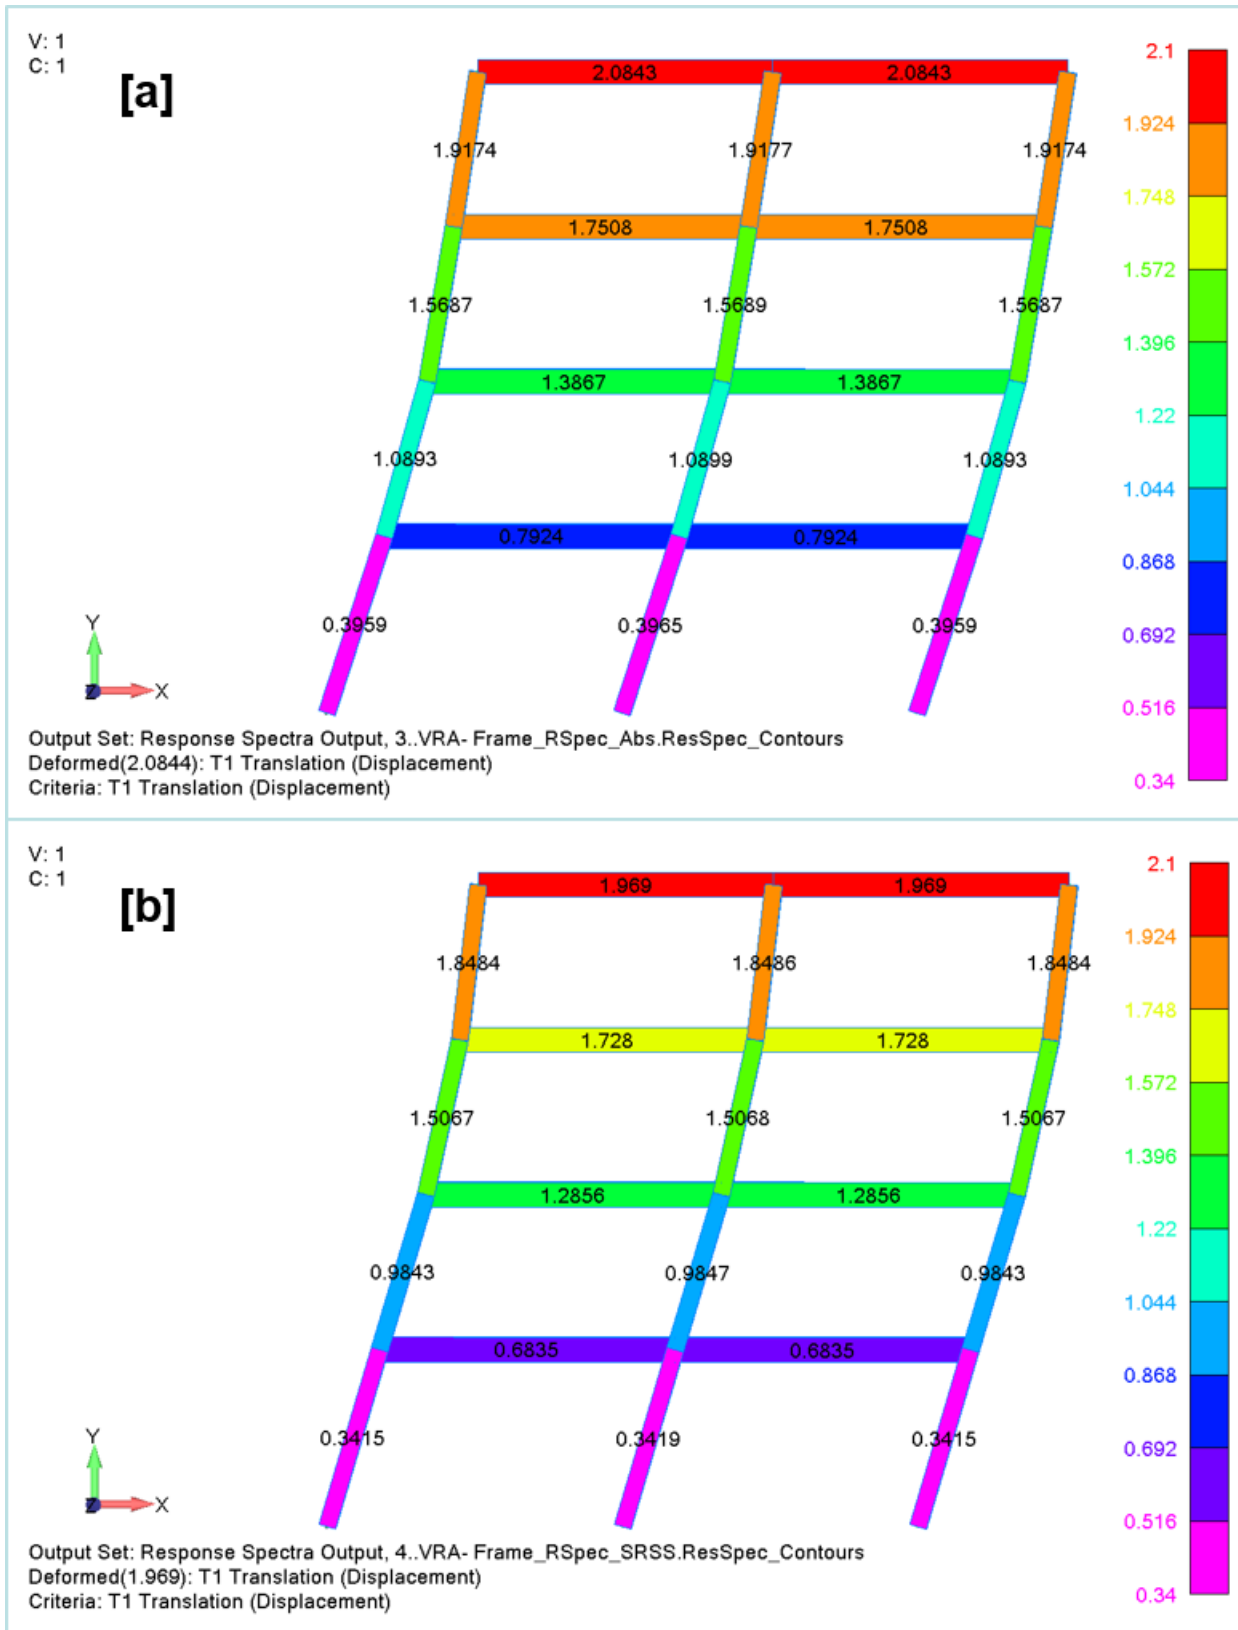
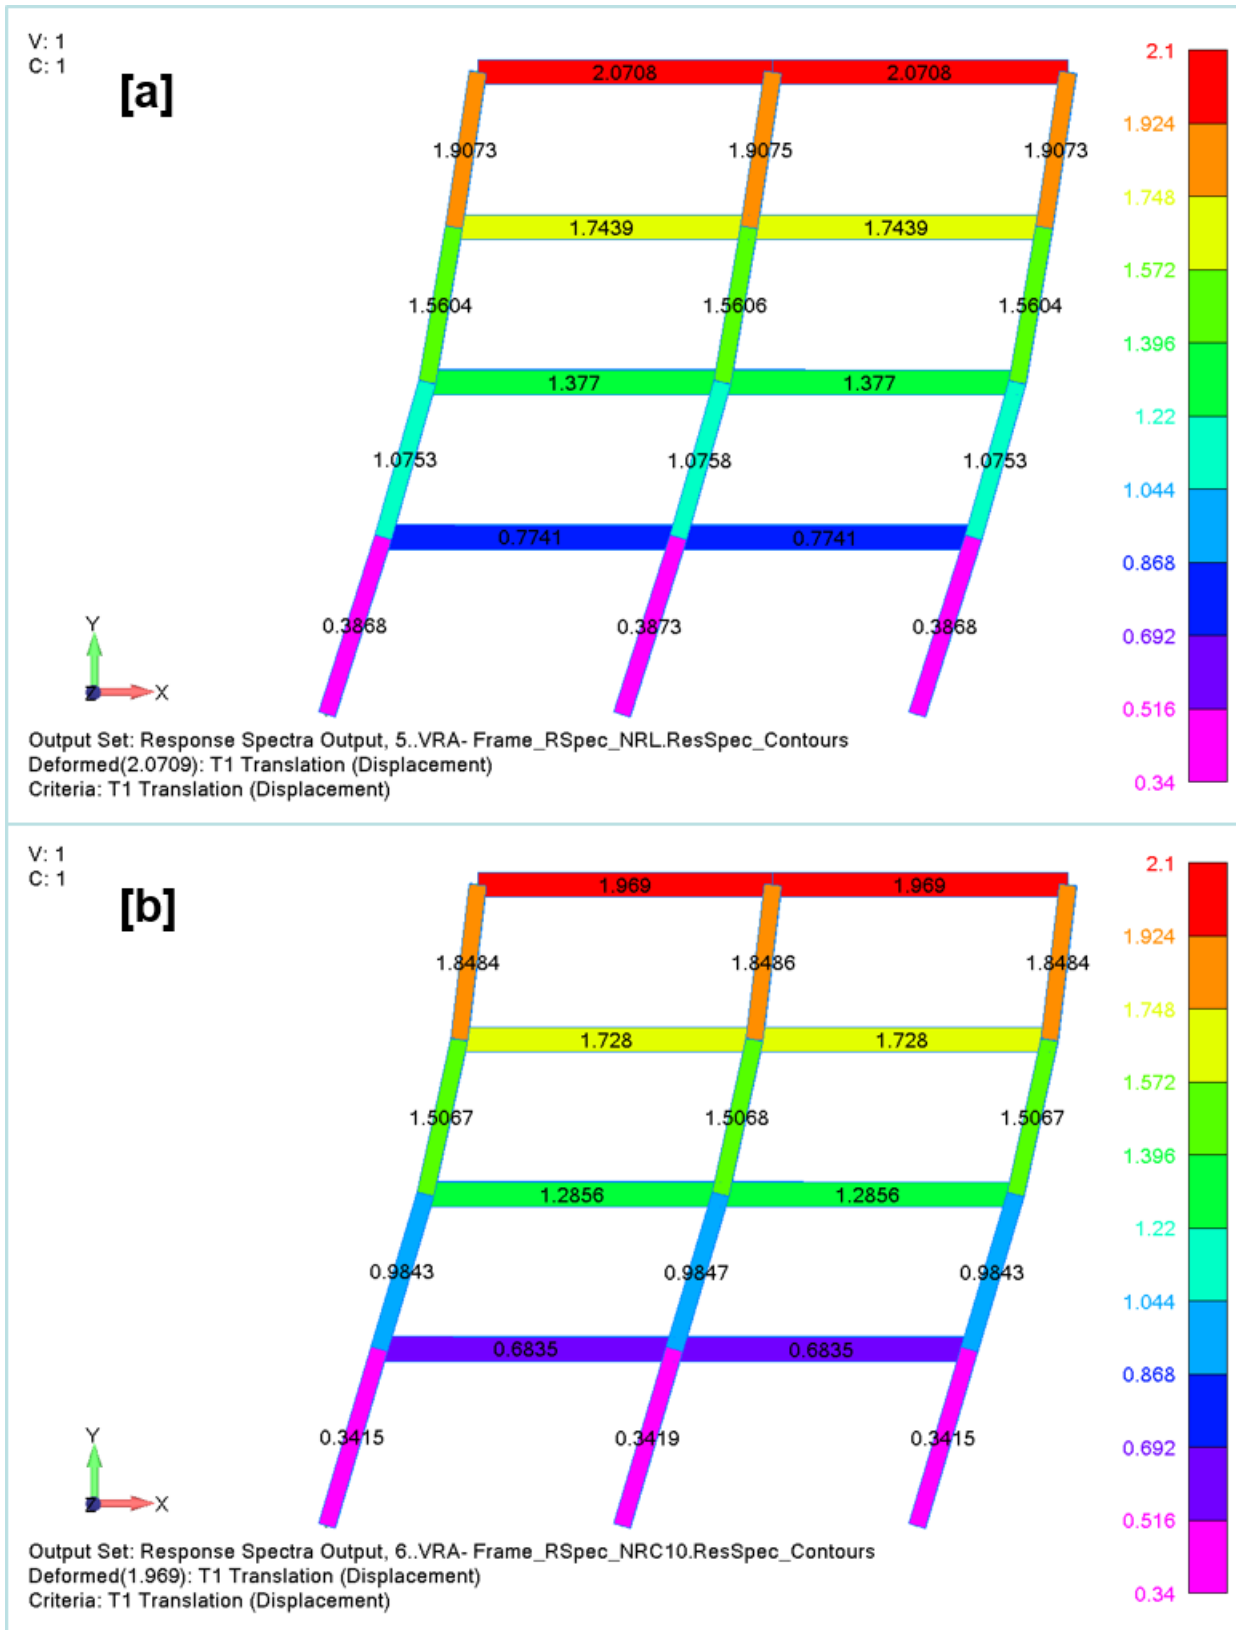
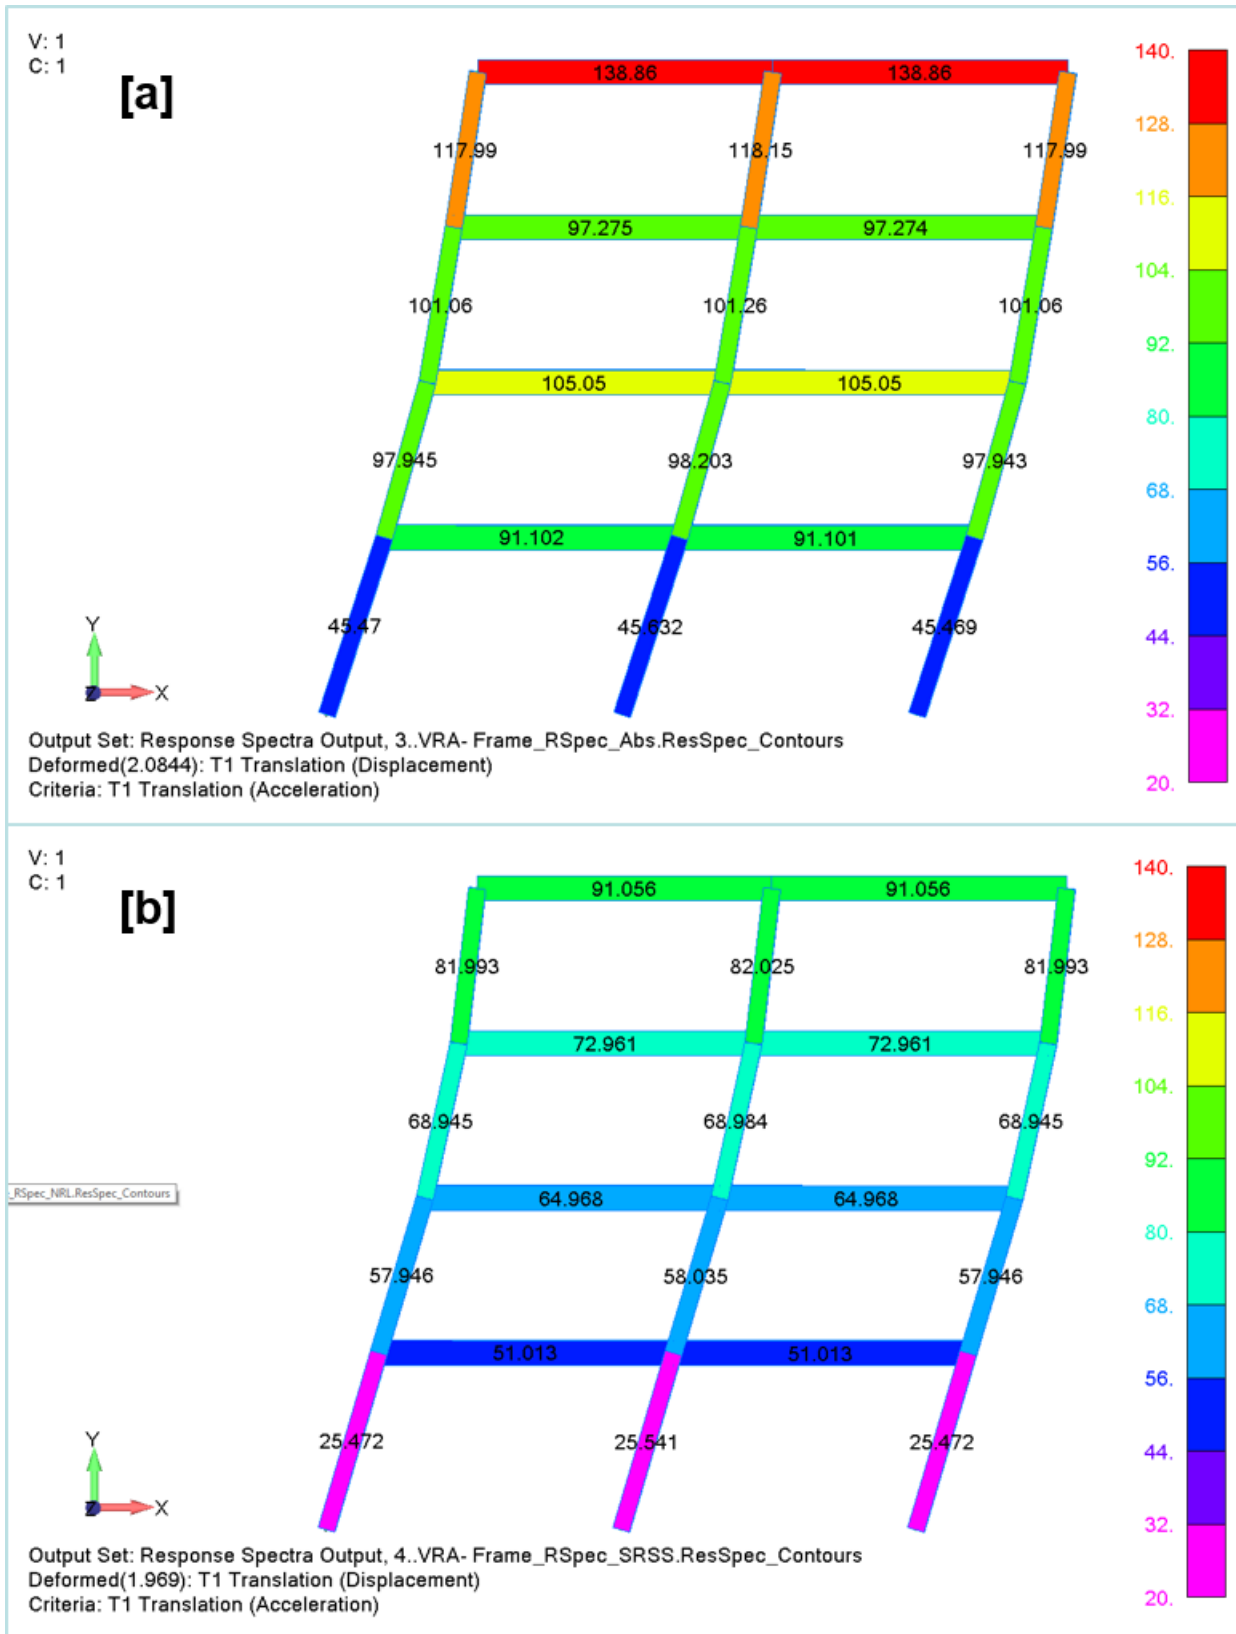
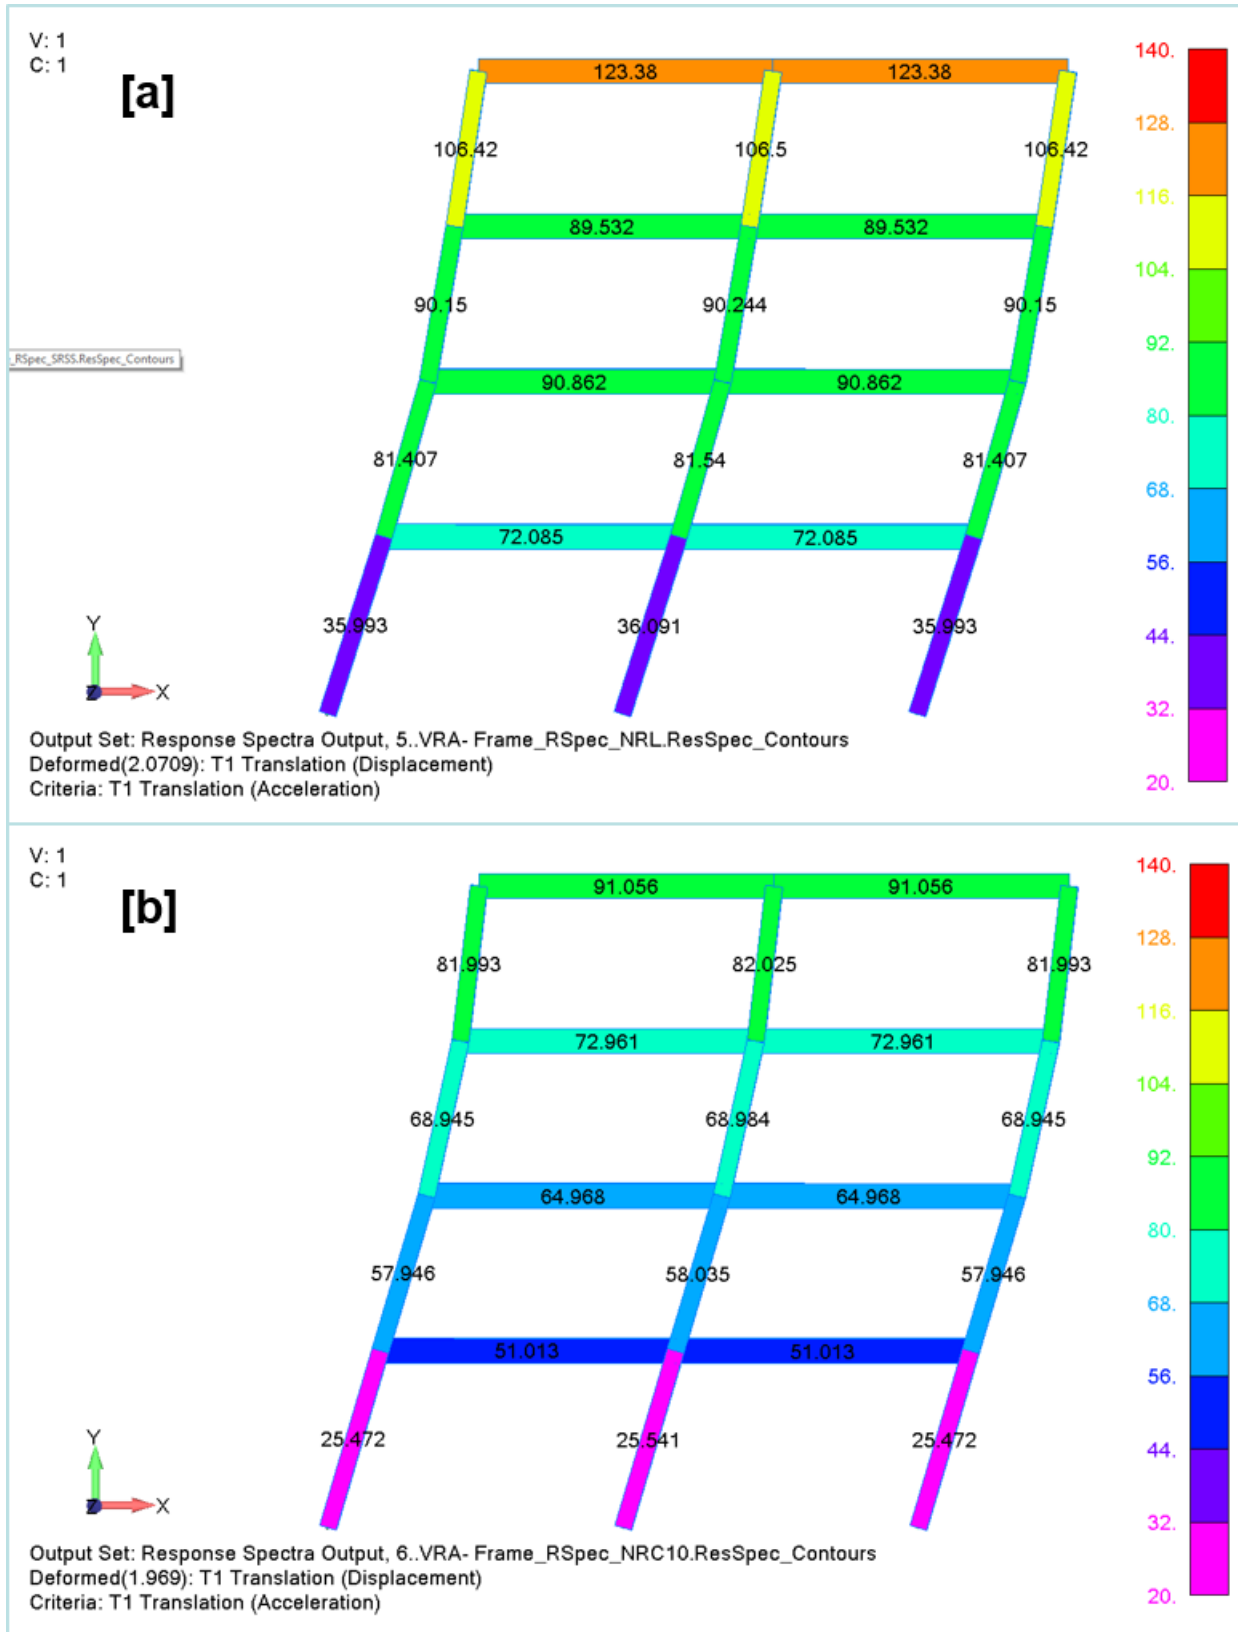

Figure 4-87. Displacements for [a] absolute value and [b] SRSS methods.
Figure 4-88. Displacements for [a] NRL and [b] NRC 10% methods.
Figure 4-89. Accelerations for [a] absolute value and [b] SRSS methods.
Figure 4-90. Accelerations for [a] NRL and [b] NRC methods
13. The displacement results are shown in Figure 4-87 and Figure 4-88. For all of the displacement plots, the color bar has been set to 10 intervals with the range from 0.34 to 2.1 inches. The acceleration results are in Figure 4-89 and Figure 4-90. The color bar range in these plots is from 20 to 140 in/s².